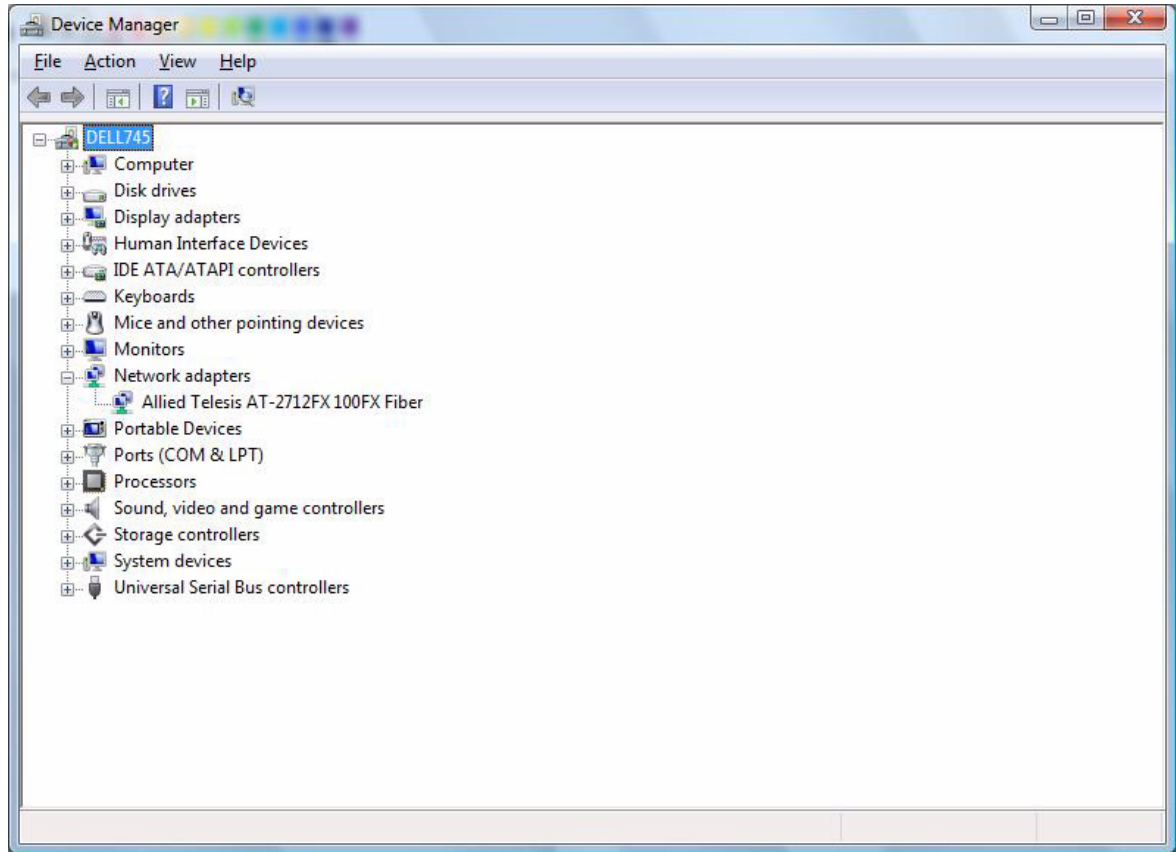

Figure 21. Device Manager Window
11. From the Computer Management, select Device Manager in the left panel. The Device Manager window is displayed. See Figure 21.
The Device Manager Window is shown in Figure 21 on page 43.